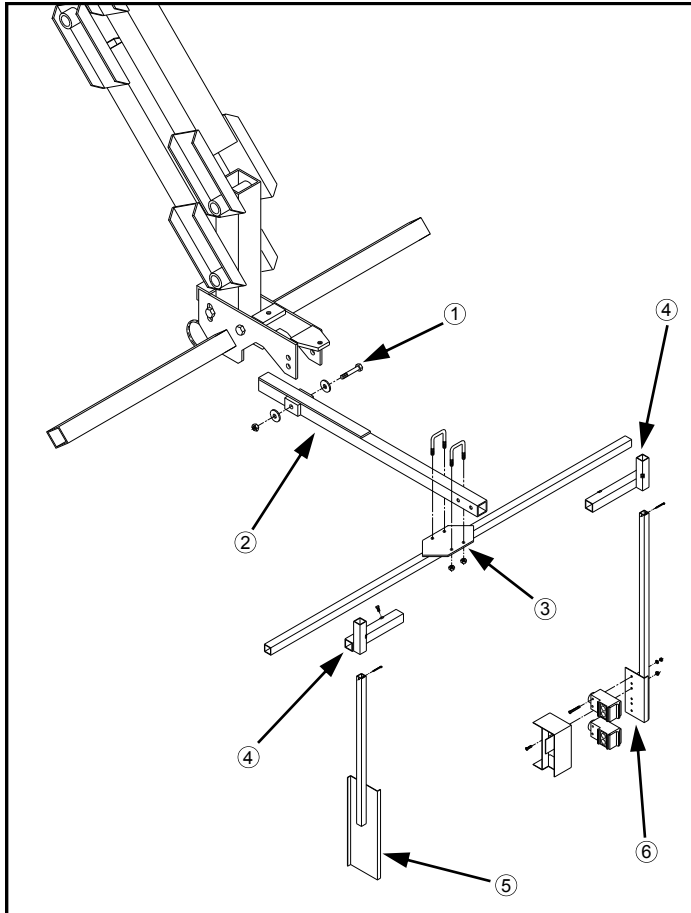

FIG 4.23
1. Install Tasselrol[®]/LS sensor arm weldment with the two nylon washers in the bottom hole in the tool bar (fig. 4.23, item 2).
2. Install the Tasselrol[®]/LS cross tube weldment (fig. 4.23, item 3) to the sensor arm.
3. Install the left and right slide mount weldments (fig. 4.23, item 4) to the cross tube weldment.
4. Install the Tasselrol[®]/LS reflector mount (fig. 4.23, item 5) and sensor mount (fig. 4.23, item 6) to the slide mount weldments.